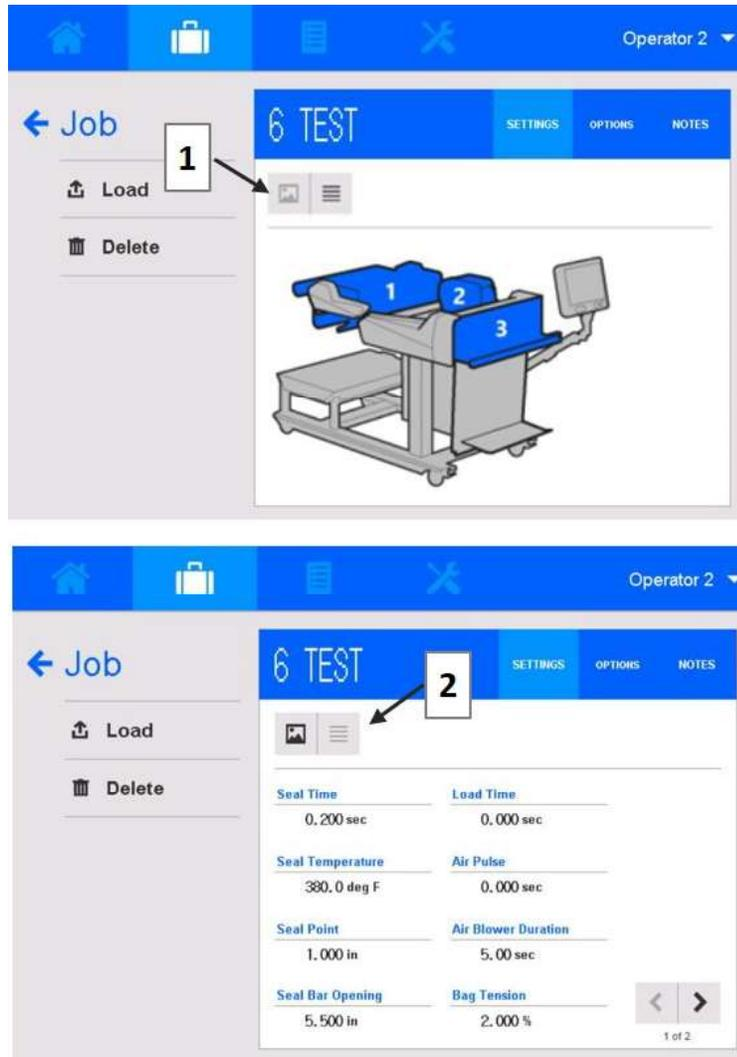

FIGURE 3-51. JOB SETTINGS AS PICTURE OR LIST FORMAT
The operator may choose to view JOB SETTINGS and OPTIONS in picture or list format. Refer to Figure 3-51. To access either format, follow the instructions below.
Press the PICTURE button (Figure 3-51, item 1) or LIST button (item 2) on the JOB screens to switch between picture and list format.